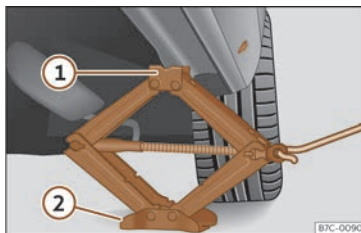

Fig. 169 Cross member: positioning the jack on the vehicle.
- Turn the jack crank handle, located below the strut support point, to raise it until the tab ① >>> Fig. 169 is below the housing provided.
- Align the jack so that tab ① “grips” onto the housing provided on the beam and the mobile base ② is resting on the ground. The base plate ② should fall vertically with respect to the support point ①.